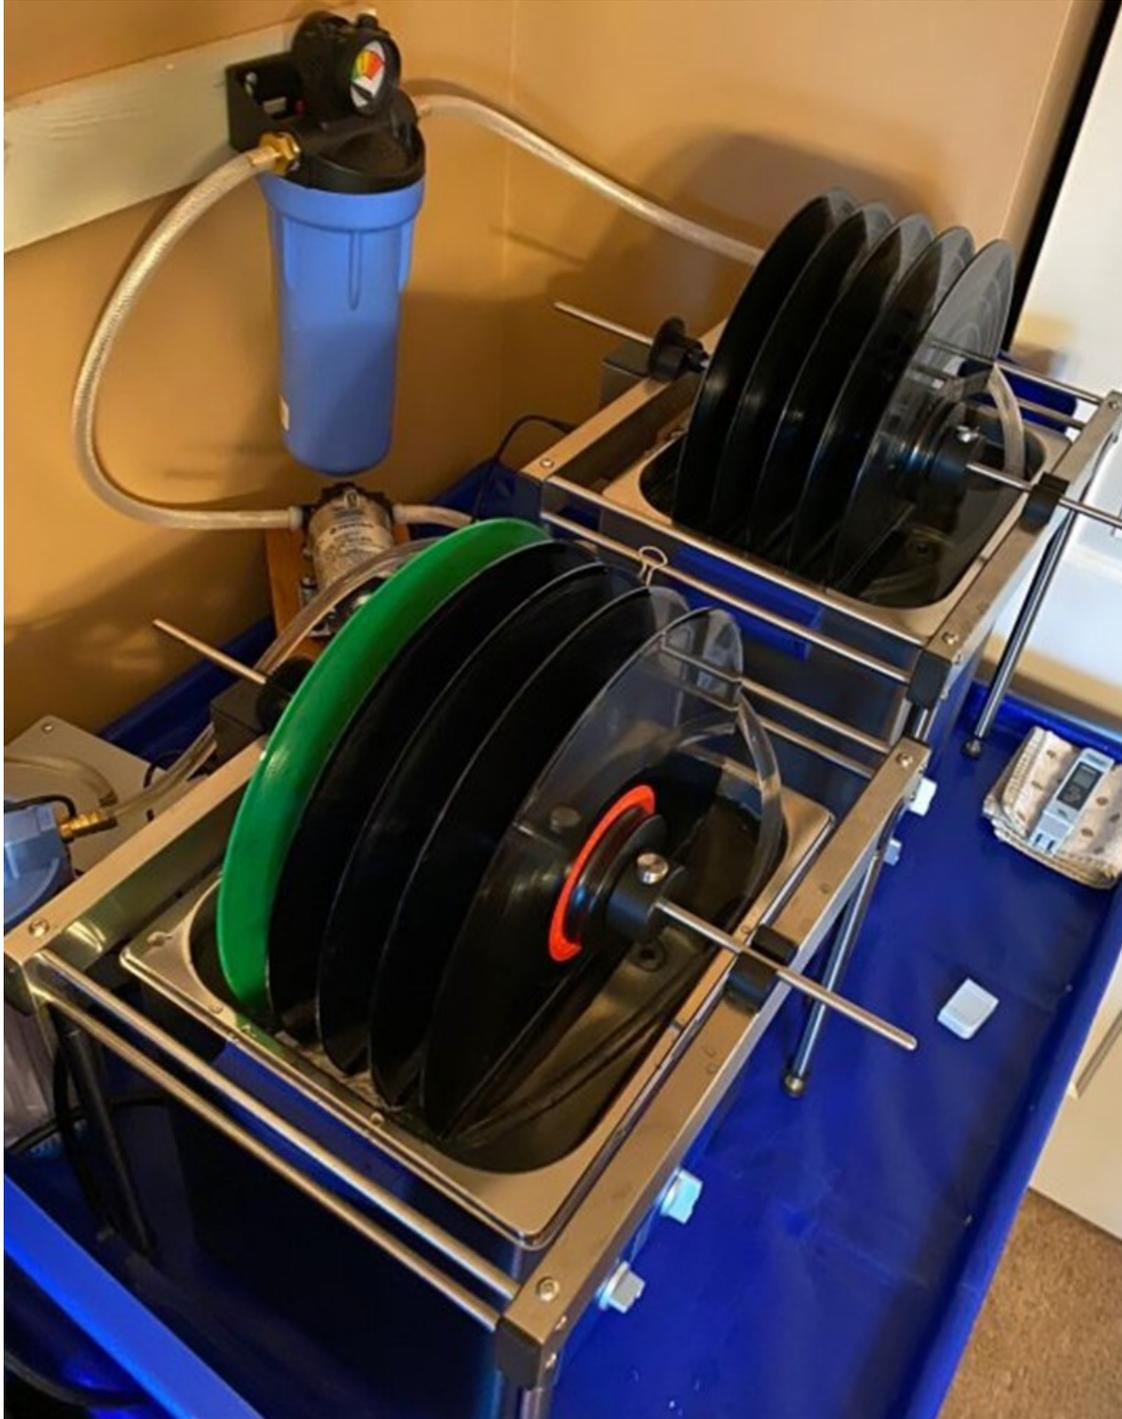

Figure 56 – Elmasonic™ UCM Filtered Clean/Rinse System & Kuzma™ Spinner w/Records
- XIV.6.3.d Example: The Kuzma™ RD Kit is often used with the Elmasonic™ P 120-H ultrasonic tank (see **Figure 56** and **Figure 57**) that has a volume of 12.75 liters. If cleaning 10 records at a time, and using the thumb-rule 1 rpm = 1 lpm, the maximum speed for 50% tank flow is (12.75L)(0.5)/(10 records)(1 lpm/rpm) = 0.64 rpm which is right at the maximum speed (0.6 rpm) of the Kuzma™ RD Kit. So, the derivation and use of the thumb-rule 1 rpm = 1 lpm appears valid for this application noting the Elmasonic™ P 120-H is a very well manufactured unit with a lot of power about 100 watts/gallon.
XIV.6.6 A source for a very high-quality record stack/spinner is the Kuzma™ RD Kit that can stack up to 10 records at a time and rotates at 0.4-0.6 rpm - RD Ultrasonic Record Cleaning kit - Kuzma Professional Turntables, Tonearms and Accessories. **Figure 57** and **Figure 56** illustrate a UCM filtered clean/rinse system using the Kuzma™ RD spinner and an Elmasonic™ P120H dual frequency 37/80-kHz UCM for cleaning and an Elmasonic™ S120H single frequency UCM 37-kHz for rinse. The clean tank filter system is the “high-option” listed **Table XXVII**. Not shown is a radiator to keep the Elmasonic™ P120H temperature <100°F to allow serial processing of records. The Elmasonic™ P120H is a powerful 12-L UCM with 330W effective ultrasonic power and 1320W peak ultrasonic power along with a variable and high power pulse operation. This system is pretty much state of the art for high throughput, precision cleaning of records for best achievable cleanliness.
XIV.6.7 For information, the cleaning process shown in **Figure 57** and **Figure 56** operates the Elmasonic P120H (and Tergitol 15-S-9 at 0.015%) for 10-min auto-cycling between 37-kHz and 80-kHz; then 10-min at 80-kHz; and then 10-min in the Elmasonic™ S120H 37-kHz for the final rinse.
XIV.12 **Step 3 - Rinse:** If using the surfactants listed **paragraph XIV.11** at the minimum concentration, rinsing is optional; some users are satisfied with the results. However, for best results, if using surfactant chemistry and not filtering, at least lightly rinse the record(s) with spray or wash bottle filled with purified water – effluent can just drain into the UCM tank or a separate tray before drying. Otherwise, for best -achievable cleaning, separate rinse equipment such as a container/tub of DIW, a second ultrasonic tank for DIW rinse-only (see **Figure 57** and **Figure 56**) or using a vacuum-RCM for rinse/dry are options that many have used to good effect.